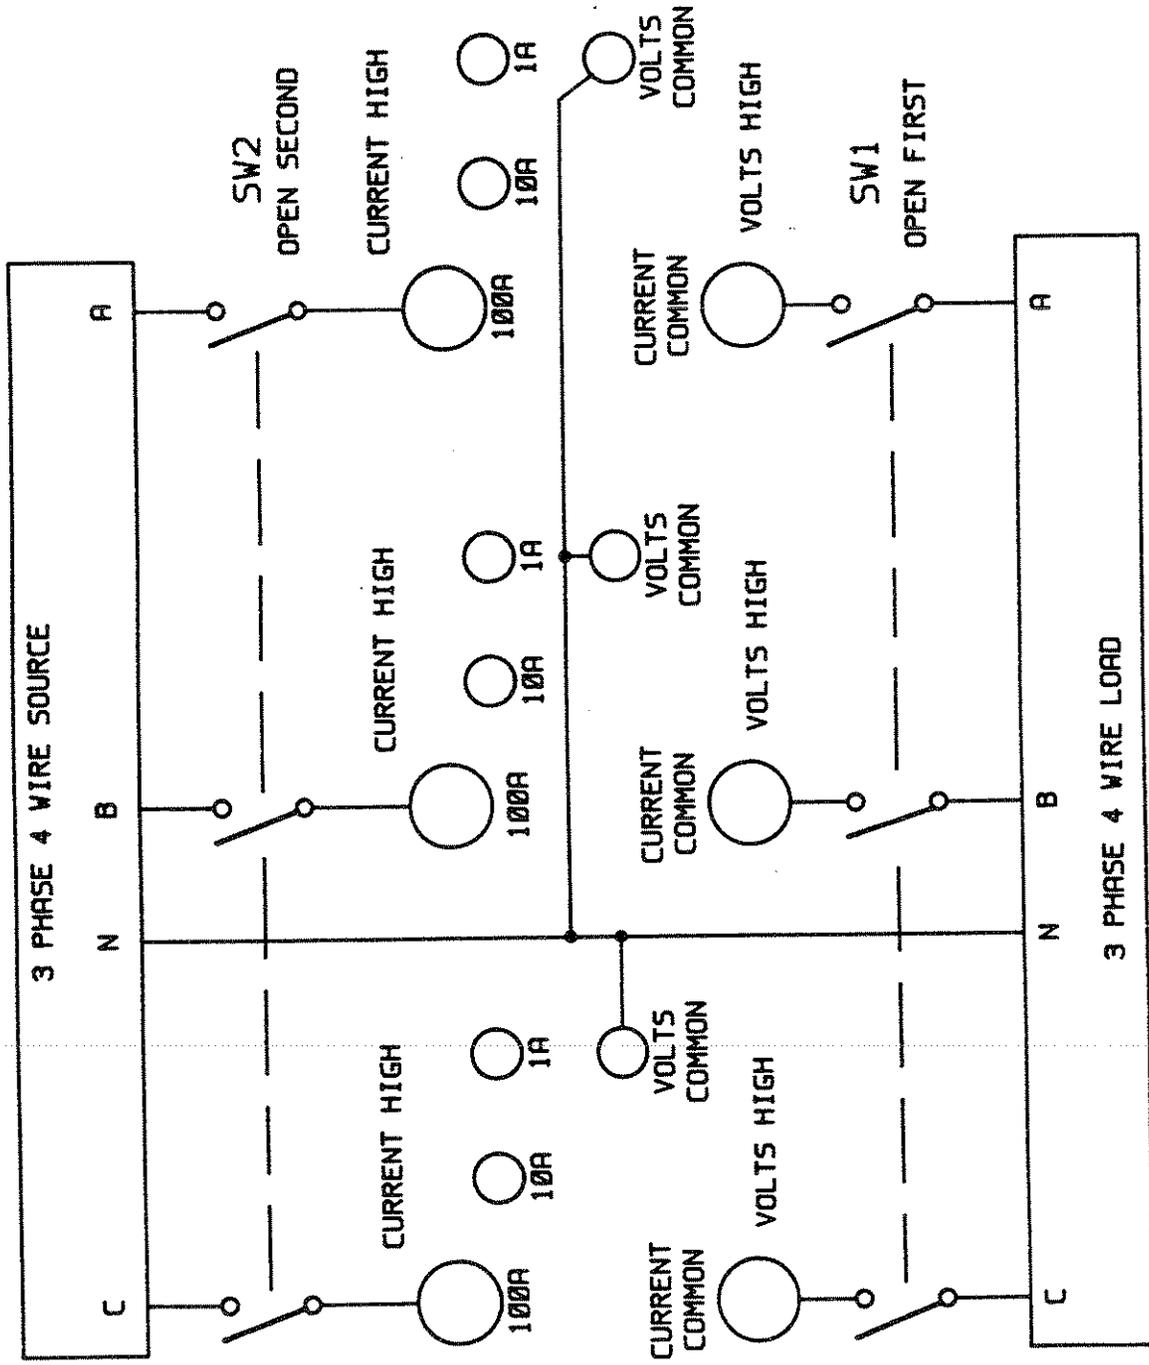

FIGURE 3 3 PHASE 4 WIRE INDUCTIVE LOAD PROTECTION METHOD 1
- Figure 3. Alternate Single-Phase Three-wire Connections